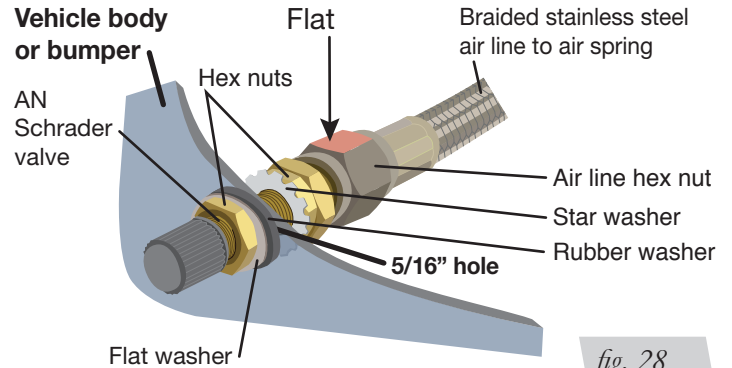

fig. 28
2. Tighten the air line hex nut finger tight, then use 2 wrenches to turn 1 additional flat (1/6 of one full turn). **Do not overtighten** (figs. 28 or 29). The easiest way to tighten the fitting is off the vehicle. Install the Schrader valve in the chosen location.